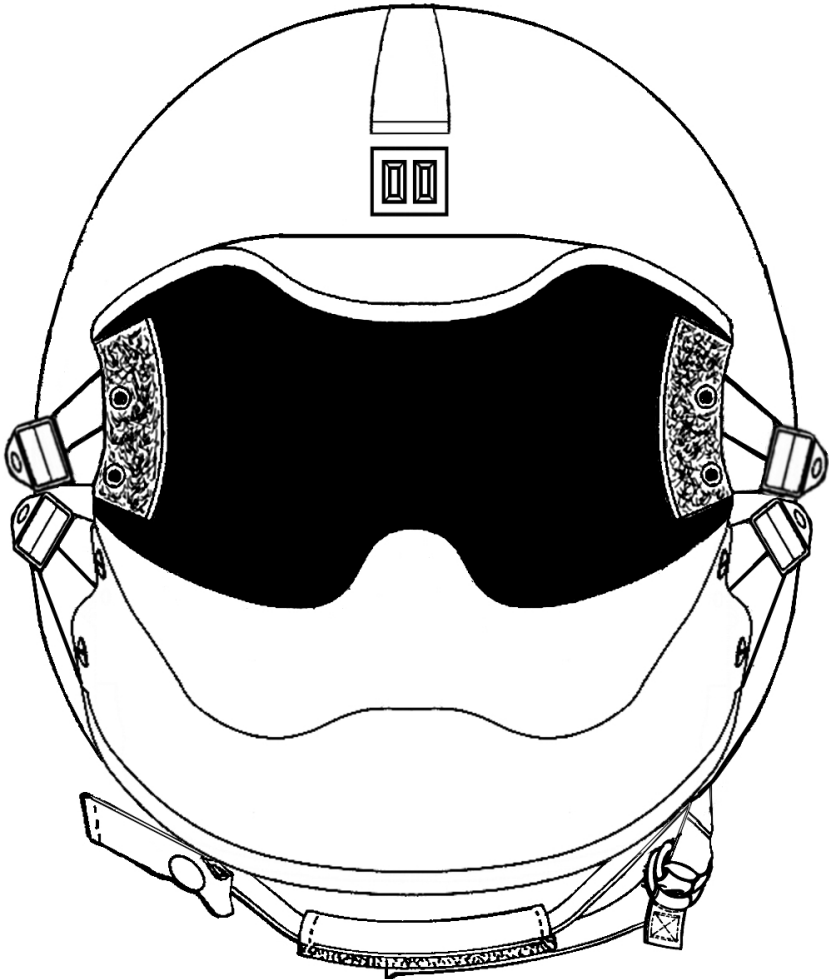

Figure 9. Visor Lowered to Check Interface with Maxillofacial Shield
6. Referring to **Figure 9**, lower the visor to check the interface between the visors and the maxillofacial shield. If necessary, readjust the visor straps and/or the maxillofacial shield straps.